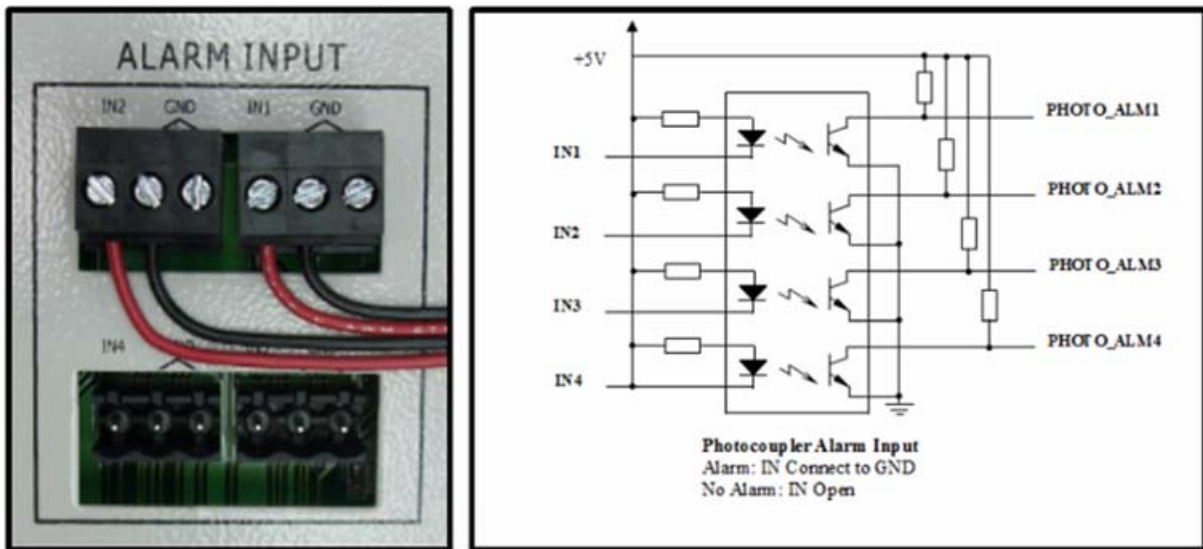

Figure 4-20. Input Alarm Installation (Alarm On)
5. Plug all the alarm connectors into the Alarm Input interface as shown in **Figure 4-20** and **Figure 4-21**.